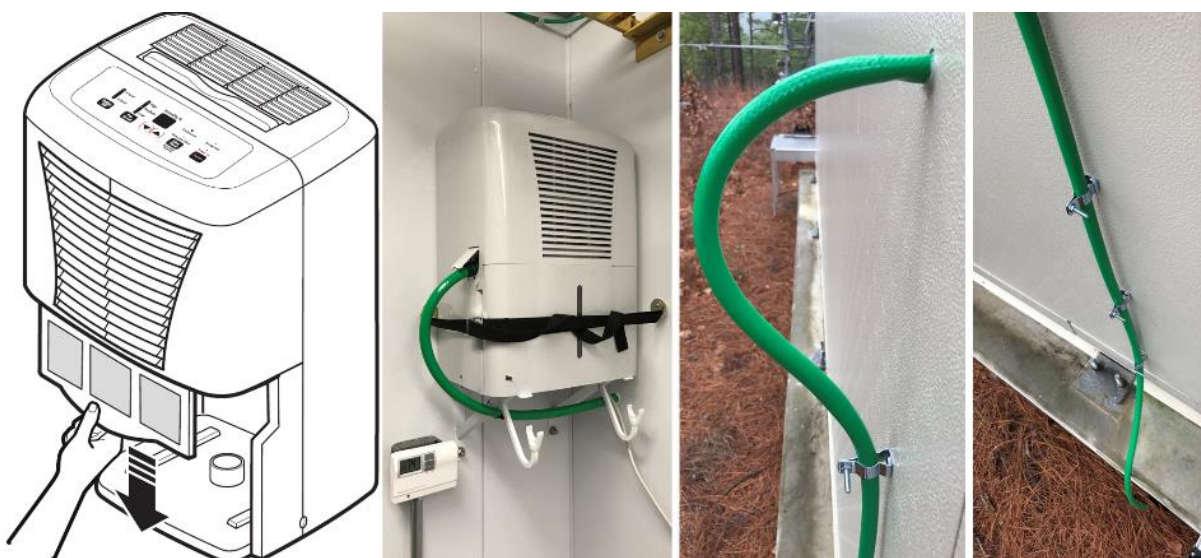

Figure 12. Hut Dehumidifier Filter Removal, Placement and Components.
Preventive maintenance procedures within this section are for sites employing a General Electric Model ADEL50 dehumidifier (**Figure 11**) only. Supplying high humidity sites with dehumidifiers mitigates variances in the data deriving from the PICARRO Analyzer for Isotopic H₂O. Excessive water absorption from changes in ambient environmental conditions or continuously operating in high humidity conditions (over 3% water content or 30,000 parts per million by volume (ppmv) water vapor to dry air ratio), may affect the wavelength monitor (WLM) and warm box ambient air (45°C) in the PICARRO Analyzer Module for Isotopic H₂O. Maintaining consistent, low humidity ambient environmental conditions is imperative for optimal performance of the PICARRO Analyzer Module. **Figure 12** on the next page is a visual representation of the dehumidifiers residing at sites subject to high humidity conditions.
- Grasp the filter edge and pull it straight down as illustrated in **Figure 12**.
Inspect hose connections, retaining strap, and mount to ensure the dehumidifier is functioning properly and secure in its position in the Hut corner (**Figure 12**). See [RD \[16\]](#) to for additional information on the Dehumidifier.